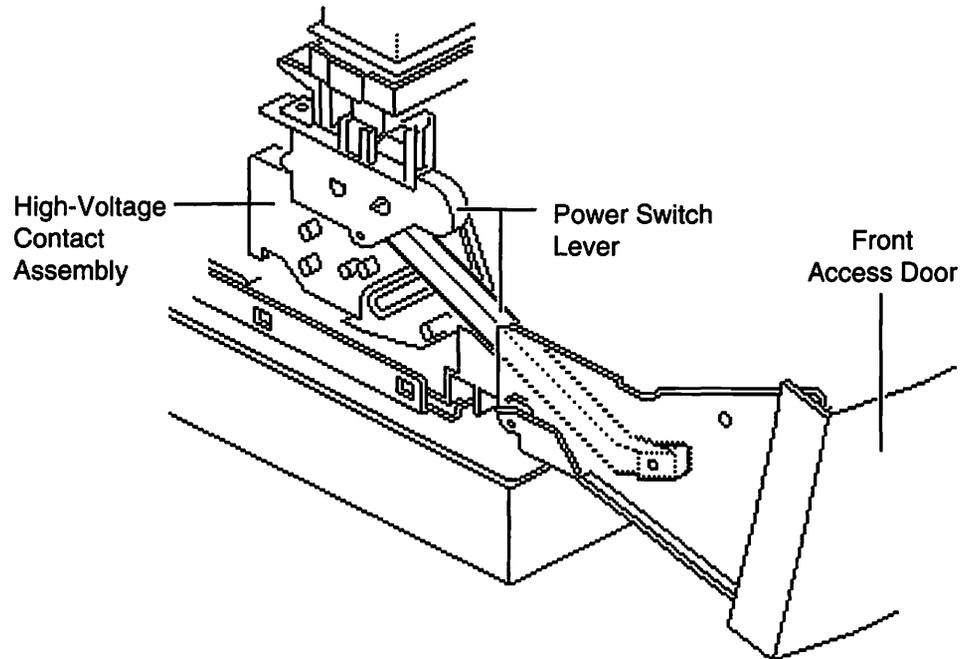

Figure 1-16
- The high-voltage contact assembly (see Figure 1-16) connects the high-voltage power supply to the toner cartridge and the transfer roller.
- When the front access door is opened, the power switch lever (see Figure 1-16) trips the cover interlock switch on the power supply, which cuts power to the fuser assembly and opens the shutter on the toner cartridge uncovering the photosensitive drum. Opening the front access door will stop the print cycle.